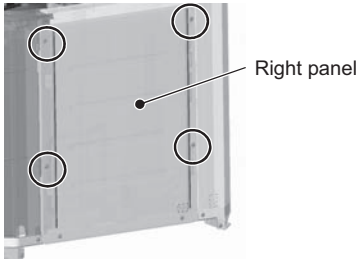
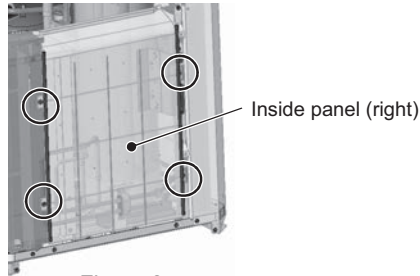
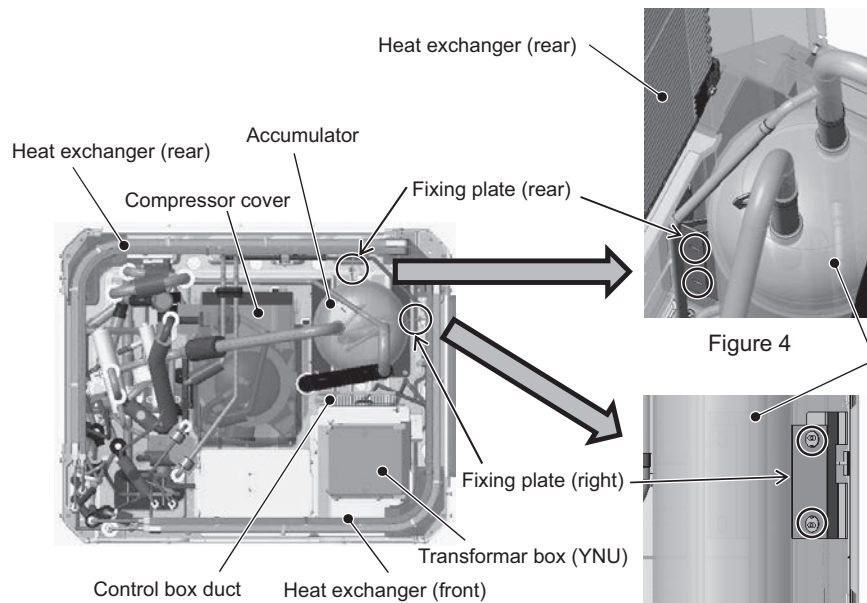
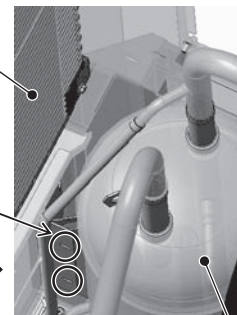

Figure 1
Figure 2
Figure 3
Figure 4
- (1) Remove the front heat exchanger. Refer to 8-13-9 Maintenance Procedures for the Heat Exchanger for details.
- (2) Remove the top, front, and right compressor covers. Refer to 8-13-5 Compressor Replacement Procedure for details.
- (3) Remove the duct from the control box. Refer to the control box replacement procedure for details.
- (4) Remove the right and inside (right) panels by unscrewing the eight screws. (See Figures 1 and 2.)
- (5) Unscrew the two screws from the right accumulator fixing plate. (See Figures 3 and 5.)
- (6) Unscrew the two screws from the rear accumulator fixing plate. (See Figures 3 and 4.)
| <p><KB type, J type, and 4-, 6-, 8-branch types></p> <p>1) Remove the control box by unscrewing the four fixing screws. (Figure 1)</p> <p>2) Unscrew the four service panel fixing screws. (Figure 2)</p> <p>3) Remove the top panel by unscrewing the nine fixing screws. (Figure 2)</p> <p><For J-type, 12- and 16-branch types, JA-type, and KA-type></p> <p>1) Remove the service panel (1) by unscrewing the two fixing screws. (Figure 3)</p> <p>2) Remove the control box by unscrewing the four fixing screws. (Figure 3)</p> <p>3) Remove the top panel by unscrewing the 10 fixing screws. (Figure 4)</p> <p>4) Remove the service panel (2) by unscrewing the two fixing screws. (Figure 4)</p> |  <p>Control Box</p> <p>Ceiling panel</p> <p>(Figure 1)</p>  <p>Service panel</p> <p>Ceiling panel</p> <p>(Figure 2)</p>  <p>Control Box</p> <p>Service panel (1)</p> <p>(Figure 3)</p>  <p>Ceiling panel</p> <p>Service panel (2)</p> <p>(Figure 4)</p> |
| <ol style="list-style-type: none"> 1) Remove the fixing screw on the long side of the bottom panel. (Four places encircled by circles in Figure 1) 2) To prevent the bottom panel from falling, of the four screws indicated with triangles in Figure 1, only loosen (but not remove) the two screws that are diagonally located or on the opposite ends of the long side of the panel (either (1) and (3), (2) and (4), (1) and (4), or (2) and (3)). Remove the two remaining screws. 3) As shown in the enlarged view of Figure 1, the fastening screw hole on the short side looks like two circles in different shape joined together (double-snowman shape). Slide the bottom panel in the direction of the arrow, and remove it in the downward direction. (Figure 2) 4) When removing the drain pan, hold the protruded area of the panel or the socket and pull it straight down, using caution not to let it come into contact with the sheet metal. (Figure 3) If the drain pan comes into contact with the sheet metal, the drain pan may be scraped, leading to water leakage. <p>Installing the bottom panel</p> <ol style="list-style-type: none"> 1) Of the four screws indicated with triangles in Figure 1, partially tighten the two screws that are diagonally located (either (1) and (3), or (2) and (4)). 2) Thread the screw into the double-snowman shaped hole, move the panel in the opposite direction as when it was removed in step 3) above, set the screw into the smaller circle, and tighten the screw to hold the panel in place. 3) Tighten the remaining screws. <p>Note</p> <p>Do not stay directly underneath the unit when working with the bottom plate. Remove the drain piping to remove the drain pan. Check that no water has accumulated in the drain pan.</p> | <p>(Figure 1) Bottom panel</p> <p>(Figure 2)</p> <p>(Figure 3) Protrusion Socket Drain pan</p> <p>Slide direction</p> <p>(Enlarged view of Figure 1)</p> |